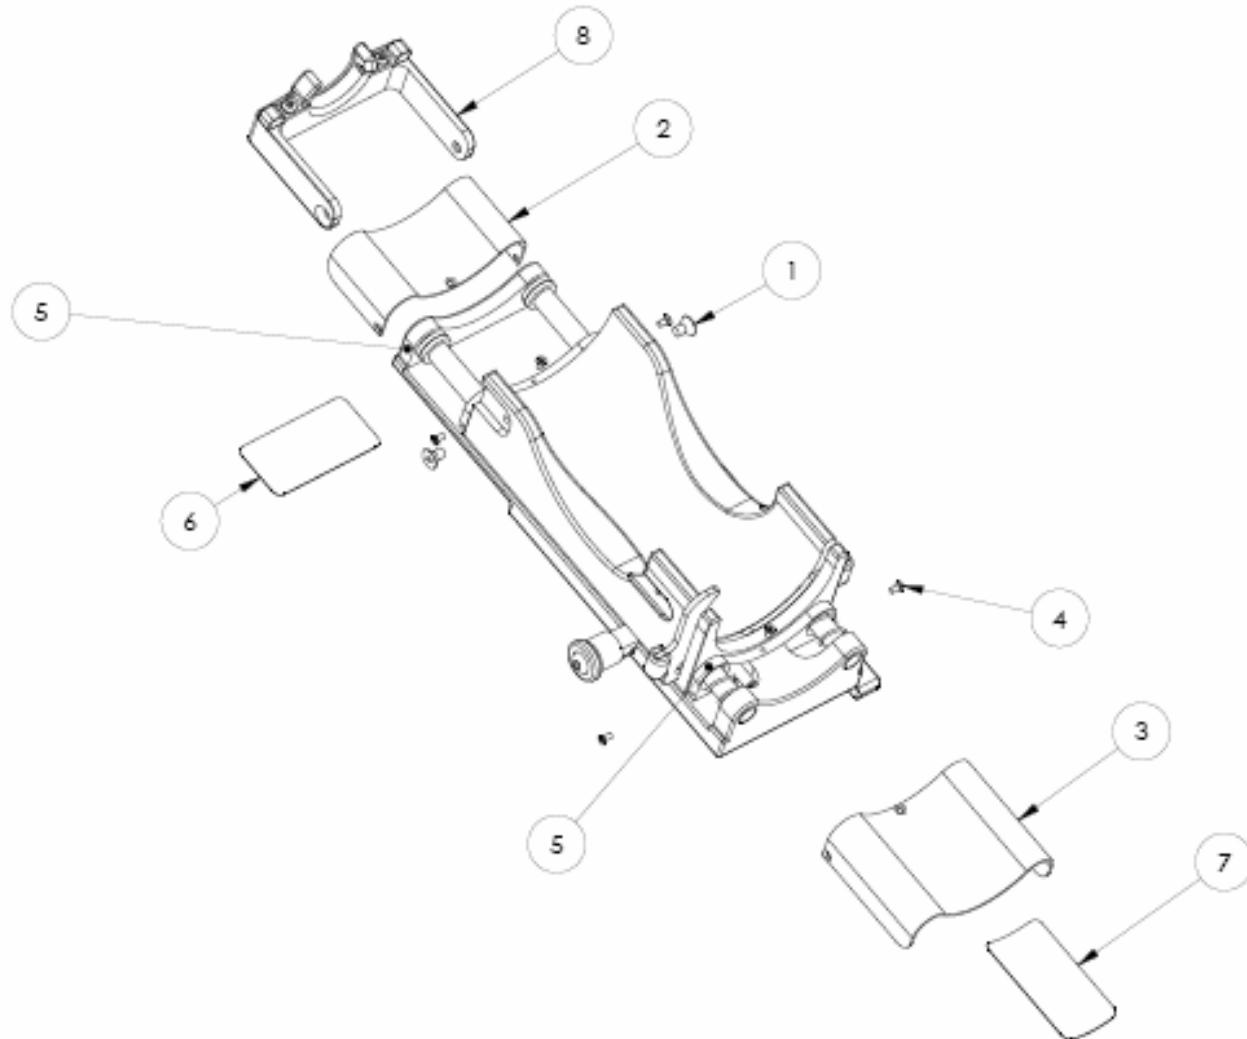

Figure 1
4.3.15 Installation of Index Ring Lock Sub Assembly (Figure 1)
2. Install (2) guide screws through the index lock assembly to the cradle.
- a. Apply threadlocker onto threads of (2) guide screws.
4.3.16 Installation of Rear (Long) Cover (Figure 1)